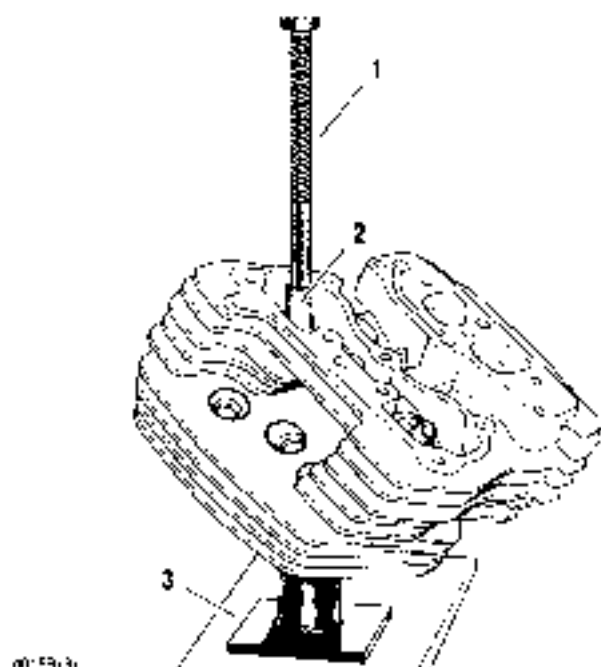

Figure 3-96. Install Valve Guide
- See Figure 3-96. Place installer sleeve (2) over valve guide and then insert tapered end of valve guide driver (1) into installer sleeve.